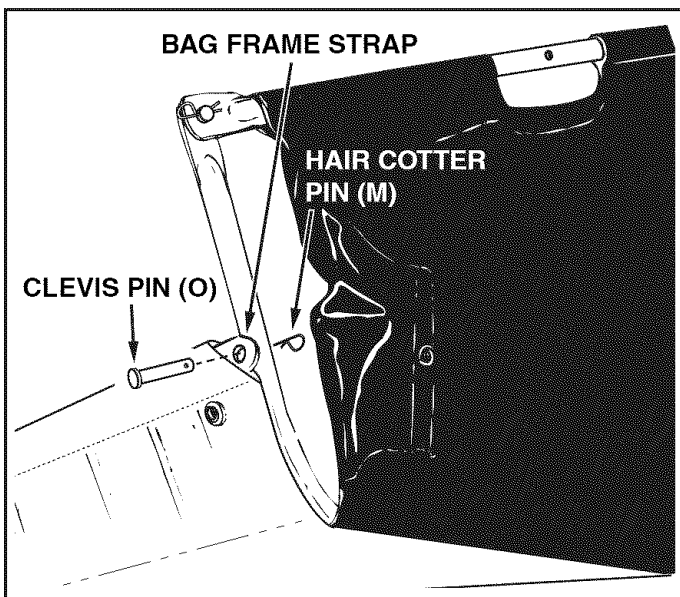

FIGURE 12
- Assemble the bag frame strap to the holes in the lower hopper tubes using two clevis pins (O) and hair cotter pins (M). See figure 12.